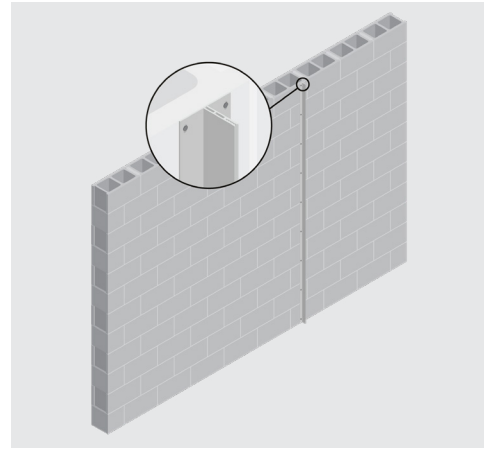
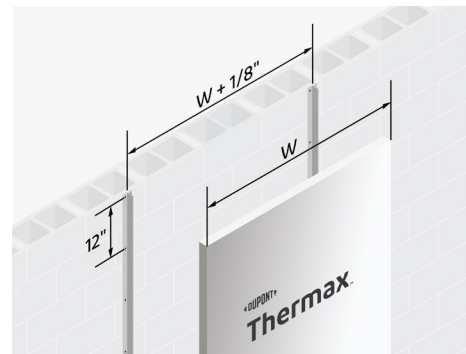

Figure 5
Figure 6
1. Measure and mark vertical lines for the placement of the PVC base strips. Space the PVC base strips for the correct width of the insulation board (Figure 5). Allow 1/8" between the insulation boards to accommodate the width of the PVC base strip. (Figure 6).
2. Fasten PVC base strip to concrete or masonry wall every 12" (Figure 6) with a pneumatic nailer or equivalent